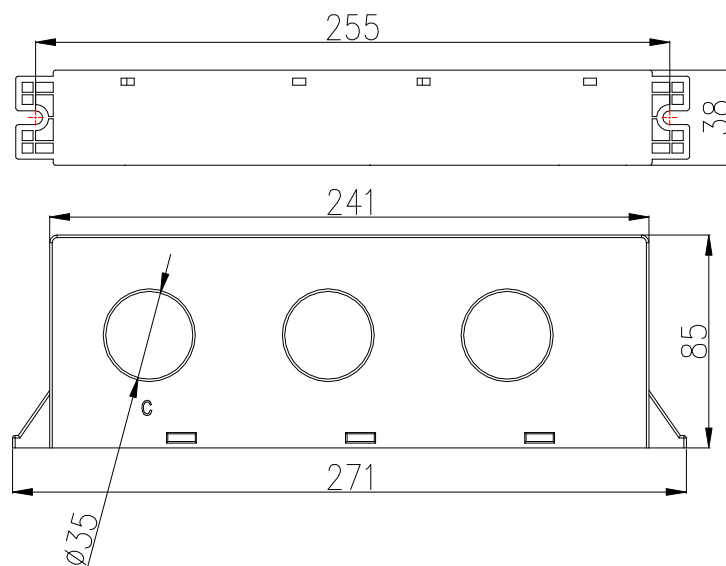

Figure 6 The external dimensions of split current transformer(250A and 800A current specification)
5.3.2 The external dimensions of split current transformer(250A and 800A current specification) are shown in figure 6(Unit:mm):